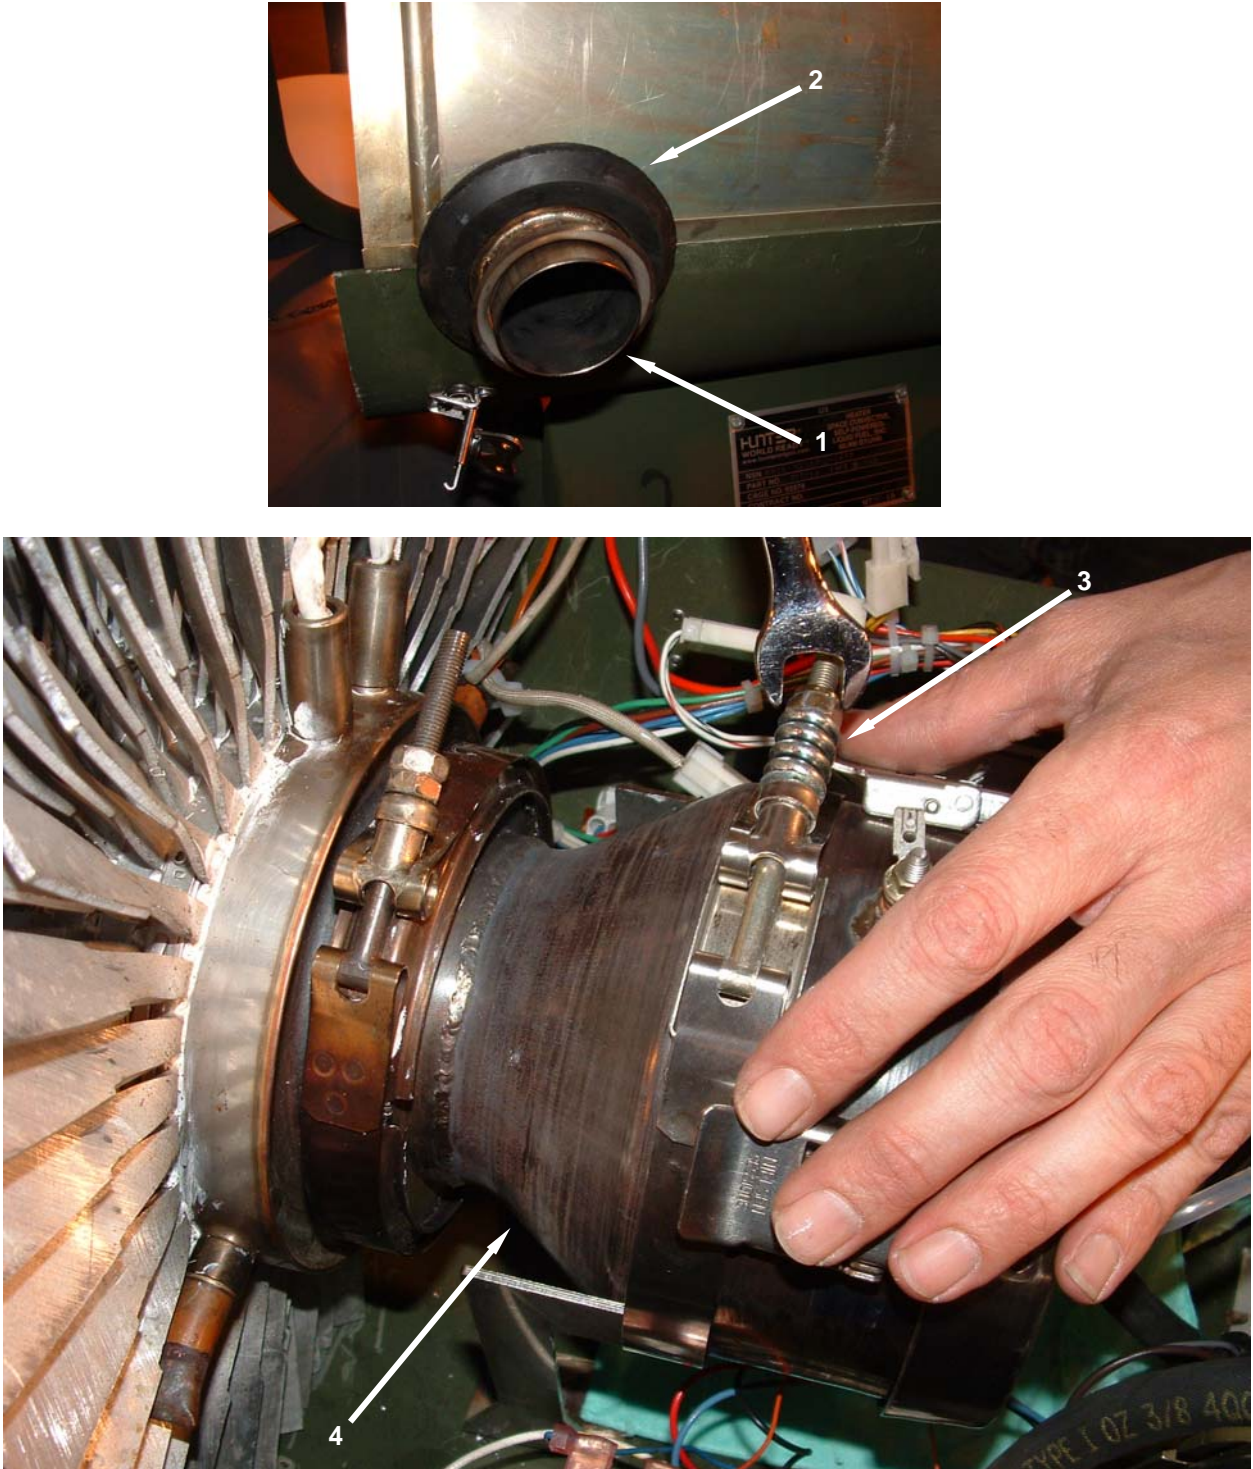

Figure 9. Replace Fin Temperature Sensor – Install Assembly.
20. Place assembled heat exchanger, TEG, and burner assembly into heater and align combustion exhaust outlet (**Figure 9, Item 1**) and exhaust grommet (**Figure 9, Item 2**) with exhaust cutout in lower housing. Be sure to engage the groove in the grommet with the cutout in the lower housing assembly.
21. Tighten clamp (**Figure 9, Item 3**) retaining burner assembly (**Figure 9, Item 4**).